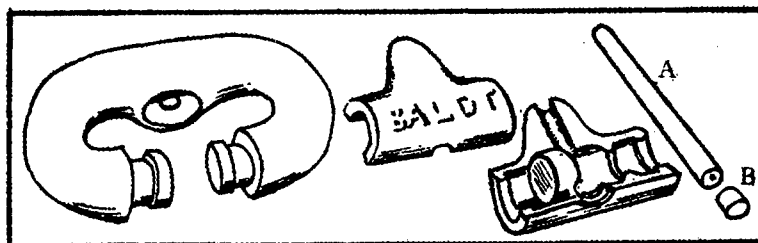

Fig. 2-25 Detachable line (and installation)
- a. The detachable link consists of a C-shaped link, two side/stud plates, a tapered pin, a lead plug and a hairpin (See **Figure 2-25**). On each end of the C-shape is a button. The side/stud plates are made so they grip the buttons and hold them from spreading under a load. To keep the plates from falling apart, a tapered pin is driven through the eyes on each plate and into the stud hole. The tapered pin is grooved and the plates drilled to accept the stainless steel hairpin. The hairpin and the lead plug are used to retain the tapered pin.
- b. Care must be taken to ensure that the side plates are properly attached to the C-shape. Note that a number is stamped on top of the C-shape and each plate. The same number can be found on the tapered pin of hairpinned links. Although these pieces may look interchangeable, they are not. All the pieces must have the same number. Install the plates with their numbered corners meeting the numbered end of the C-shape (See **Figure 2-25**).